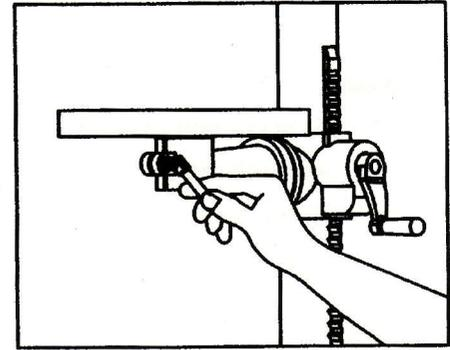

fig.6
1. Install table and clamp with bolt. Fig. 6.